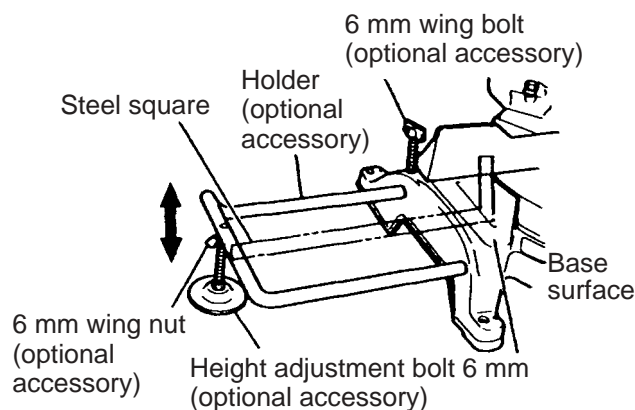

Fig. 16
(1) As indicated in Fig. 16, use a steel square for aligning the upper edge of the holders with the base surface. Loosen the 6 mm wing nut. Turn a height adjustment bolt 6 mm, and adjust the height of the holder.
(2) After adjustment, firmly tighten the wing nut and fasten the holder with the 6 mm wing bolt (optional accessory). If the length of the height adjustment bolt 6 mm is insufficient, spread a thin plate beneath. Make sure the end of the height adjustment bolt 6 mm does not protrude from the holder.